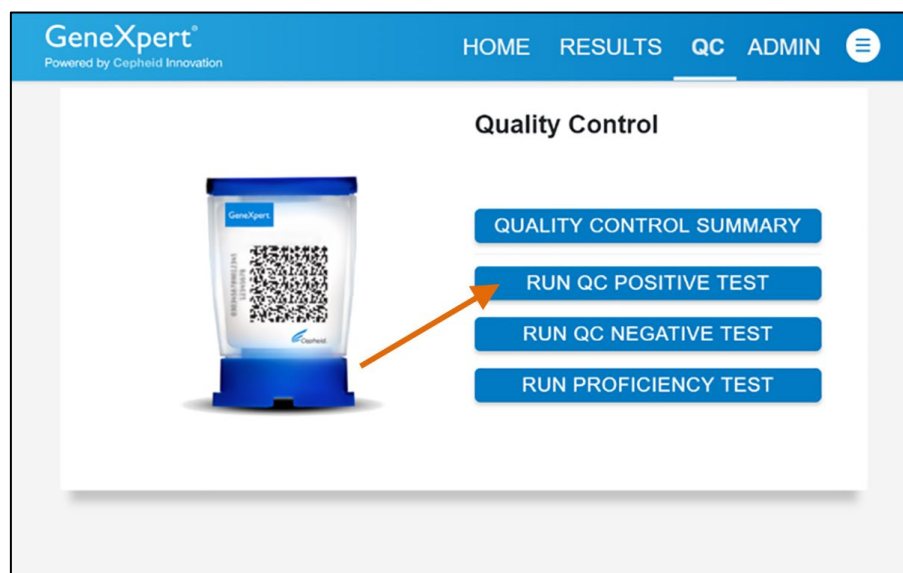

Figure 24. Quality Control Screen
2. The Quality Control screen appears. Touch RUN QC POSITIVE Test, RUN QC NEGATIVE TEST, or RUN PROFICIENCY TEST option (Figure 24).